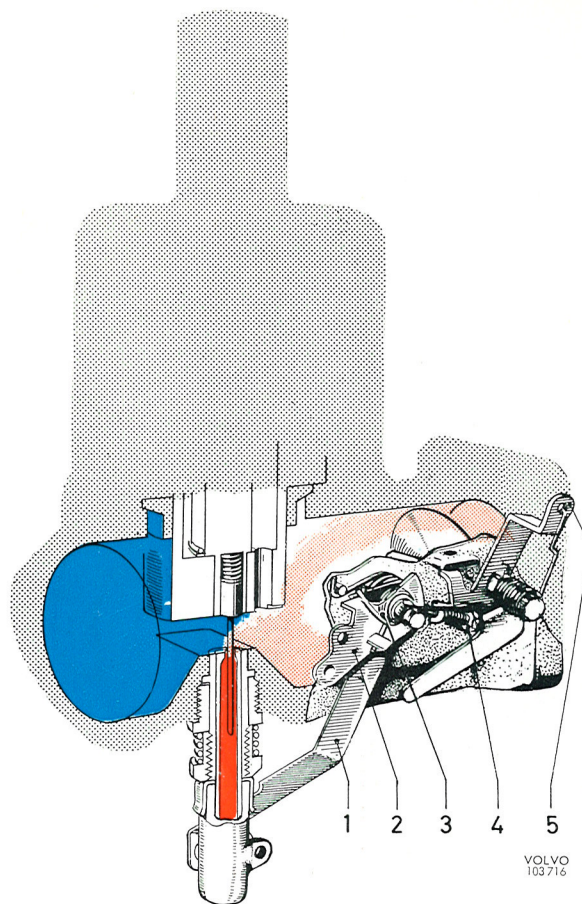

Fig. 2-84. Carburettor, fast idle
When the choke control is pulled out, the outer end of the lever (3) is pressed downwards and operates the jet so that this is also pressed down. In addition, the fast idling screw is operated by the cam on the lever (2, Fig. 2-84) and the throttle flap opens slightly.
When the choke control is pulled out, the throttle flap is operated. One end of the lever (2, Fig. 2-84) is in the form of a cam which presses on the fast idle stop screw (4) whereby the throttle flap is opened. This means that the engine runs at a faster idling speed during the time the choke control is pulled out.